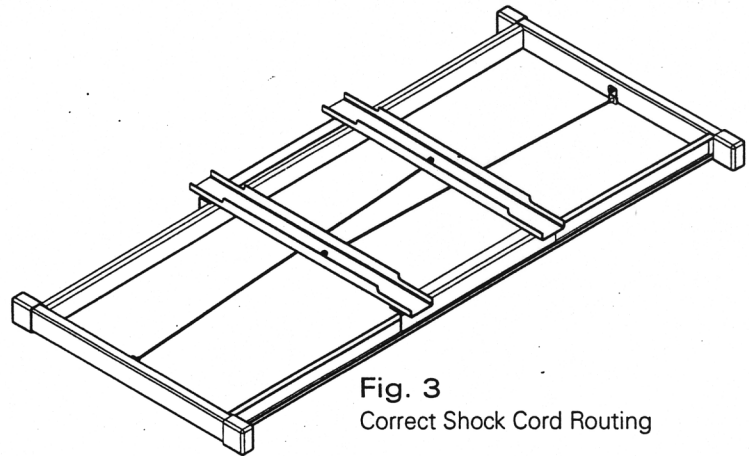

Fig. 3
- 7) Route the bungee cord through the Z-brackets as shown in Fig. 3. Tie a knot in the end of the bungee cords.